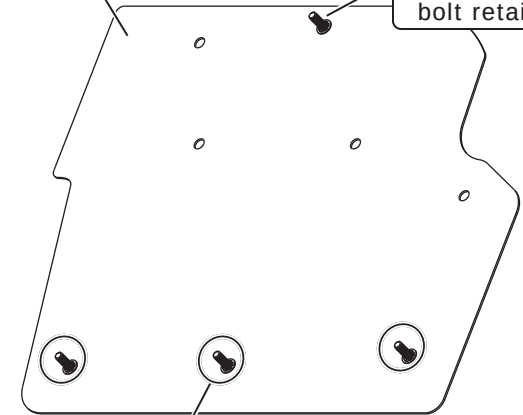

Figure 1
2. Install (3) 1/4-20 x 3/4" serrated flange black bolts, a 1/4-20 x 1" serrated flange black bolt and (4) 1/4" pushnut bolt retainers onto the firewall cover as shown in Figure 1, below.